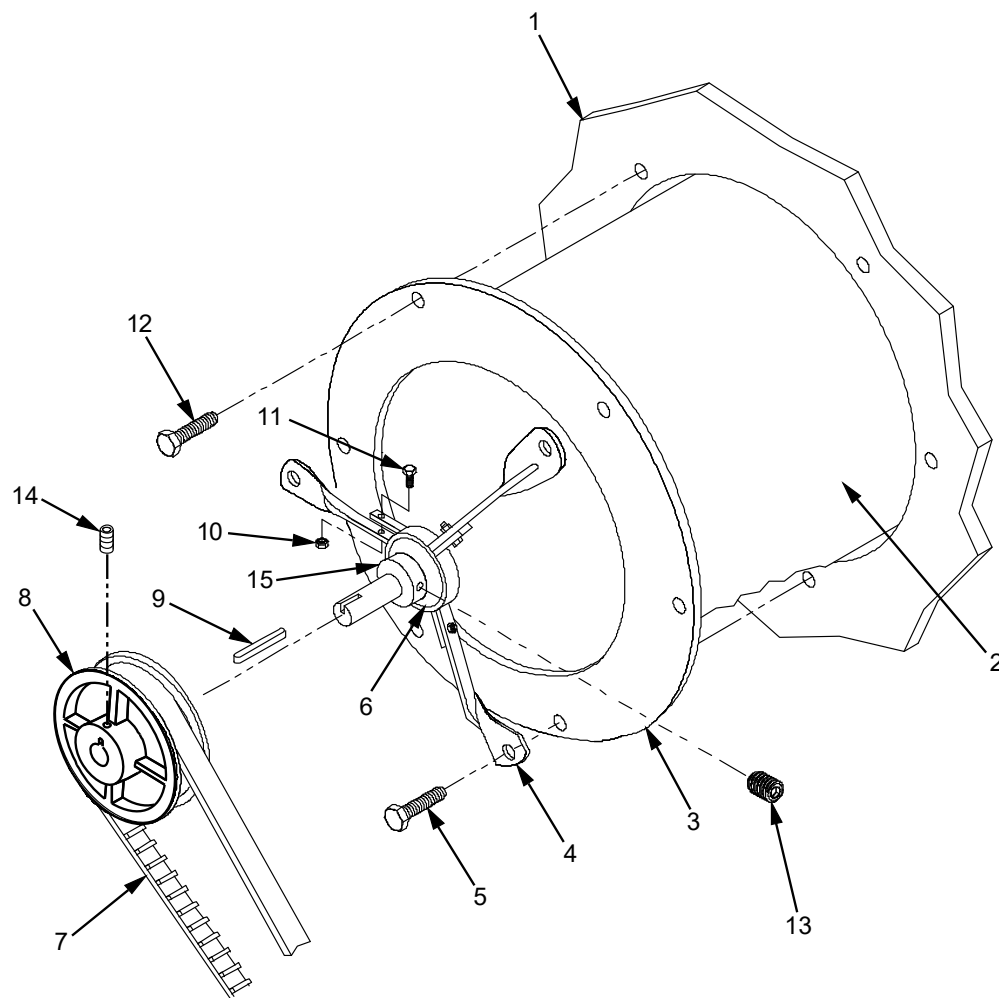

Figure 2. Evaporator Blower Fan Replace.
4. Push the evaporator fan motor upwards along the mounting studs to decrease tension on the belt (Figure 2, Item 7).
5. Slide belt (Figure 2, Item 7) off of blower pulley (Figure 2, Item 8).
6. Remove and retain three nuts (Figure 2, Item 10) and bolts (Figure 2, Item 11) that secure bearing supports (Figure 2, Item 4) onto bearing (Figure 2, Item 6).
7. Loosen but do not remove three bolts (Figure 2, Item 5) that secure brackets (Figure 2, Item 4) on control panel side of ECU.
8. Remove and retain three nuts (Figure 2, Item 10) and bolts (Figure 2, Item 11) that secure bearing supports (Figure 2, Item 4) on control panel side of ECU.
9. Loosen three bolts (Figure 2, Item 5) that secure bearing supports (Figure 2, Item 4) onto fan shroud (Figure 2, Item 3) and rotate bearing supports (Figure 2, Item 4) away from bearing (Figure 2, Item 6).
10. Remove and retain six mounting bolts (three loosened in previous step and three additional) (Figure 2, Items 5 and 12) that secure blower fan (Figure 2, Item 2) to enclosure (Figure 2, Item 1).
11. Slide blower fan (Figure 2, Item 2) out and place on a suitable work area.
12. Remove set-screw (Figure 2, Item 14) and using a center puller, remove pulley assembly (Figure 2, Item 8) and key (Figure 2, Item 9) from shaft of blower fan (Figure 2, Item 2).
13. Remove set screw (Figure 2, Item 13) and shaft collar (Figure 2, Item 15) and set aside.
14. Remove and retain fan shroud (Figure 2, Item 3) and bearing supports (Figure 2, Item 4).
1. Place blower fan (Figure 2, Item 2) on a suitable work area and install fan shroud (Figure 2, Item 3) and bearing supports (Figure 2, Item 4) onto blower fan (Figure 2, Item 2), support by installing three nuts (Figure 2, Item 10) and bolts (Figure 2, Item 11) onto bearing supports (Figure 2, Item 4).
2. Install shaft collar (Figure 2, Item 15) and set screw (Figure 2, Item 13) onto shaft of blower fan (Figure 2, Item 2).
3. Mount pulley assembly (Figure 2, Item 8), key (Figure 2, Item 9) and set screw (Figure 2, Item 14) onto shaft of blower fan (Figure 2, Item 2).
4. Install assembled blower fan (Figure 2, Item 2) into enclosure (Figure 2, Item 1) and align bearing supports (Figure 2, Item 4).
5. Install three bearing supports (Figure 2, Item 4) onto bearing (Figure 2, Item 6) (on control panel side of ECU) and loosely install three mounting bolts (Figure 2, Item 12) and nuts (Figure 2, Item 10).
6. Properly position bearing supports (Figure 2, Item 4) and install three bolts (Figure 2, Item 5).
8. Slide belt (Figure 2, Item 7) over blower pulley (Figure 2, Item 8) and evaporator motor pulley (Figure 1, Item 10).
When performing the following steps, deflection of belt (Figure 2, Item 7) should not be greater than one inch.